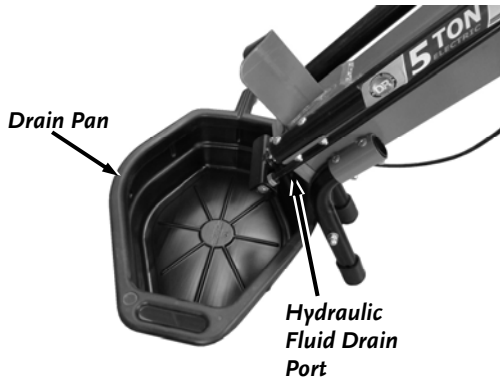

Figure 13
3. Tip the Splitter down onto the Legs as you drain the Fluid into an approved Container (1 gallon or more capacity) and continue tipping the machine until the Tank is empty (**Figure 13**).